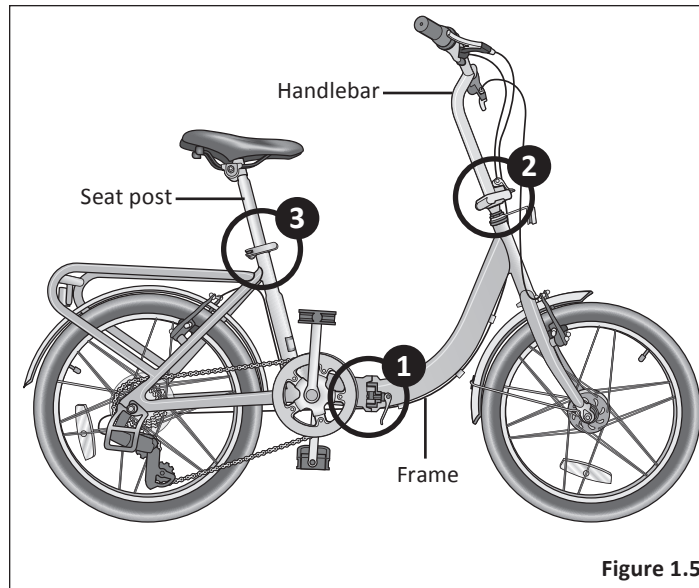

Figure 1.5
- 1 The frame must be securely locked. Ensure the frame latch is properly seated and the quick-release lever locked in place. **Figure 1.5**